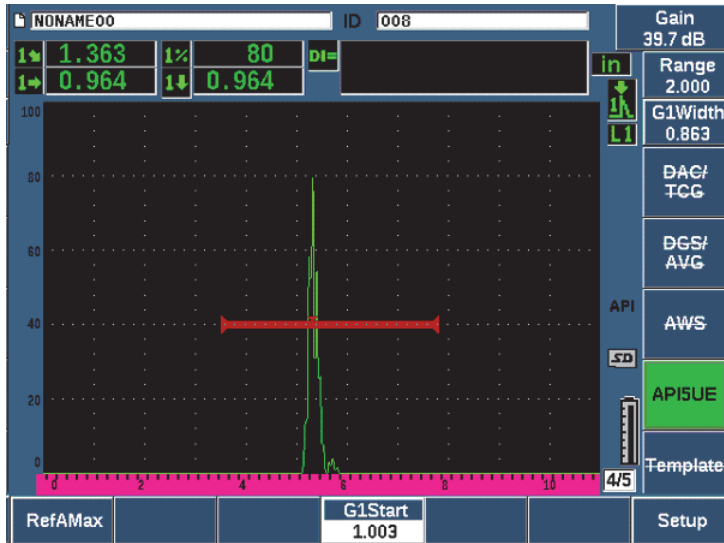

Figure 11-25 Storing the  $A_{\max}$  point
6. Press **RefAMax** (P1) to store the  $A_{\max}$  point, and then press **RefAMax** again to confirm (see Figure 11-25 on page 274).